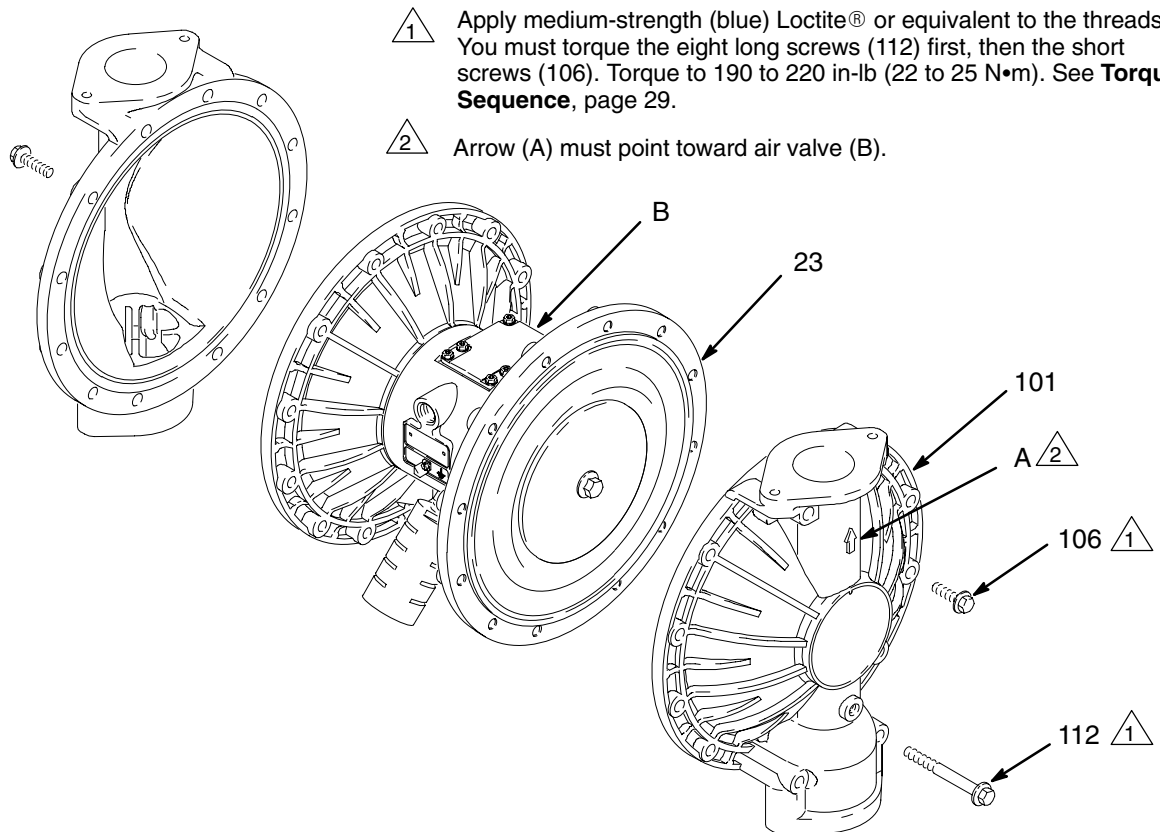

Fig. 11
3. Using 10 and 13 mm socket wrenches, remove the screws (106 and 112) holding the fluid covers (101) to the air covers (23). Pull the fluid covers (101) off the pump. See Fig. 11.
3. Grease the length and ends of the diaphragm shaft (24), and slide it through the housing (1).
5. Hold one shaft bolt (107) with a wrench and torque the other bolt to 20 to 25 ft-lb (27 to 34 N•m) at 100 rpm maximum. *NOTE: This step does not apply to pumps with overmolded diaphragms.*
6. Align the fluid covers (101) and the center housing (1) so the arrows (A) on the covers face the same direction as the air valve (B). Secure the covers with the screws (106 and 112), handtight. Install the longer screws (112) in the top and bottom holes of the covers. See Fig. 11.
7. First, torque the longer screws (112) oppositely and evenly to 190 to 220 in-lb (22 to 25 N•m), using a 13 mm socket wrench. Then torque the shorter screws (106), using a 10 mm socket wrench. See **Torque Sequence**, page 29.